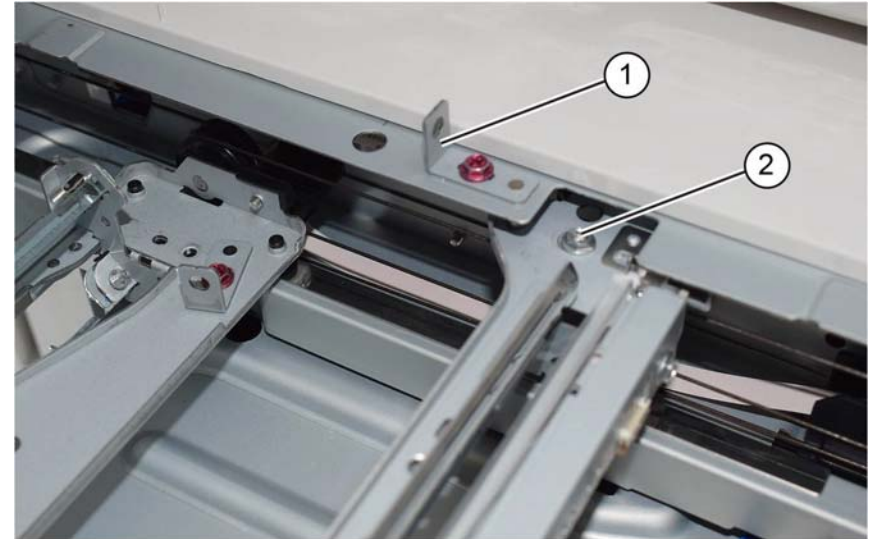

Figure 6 Carriage setting
8. Secure the rear cable to the full rate carriage, Figure 6:
- a. Remove the alignment pin from the front of the half rate carriage. Install the alignment pin (1) to the rear of the full rate carriage.
- b. Tighten the rear cable securing screw (5).